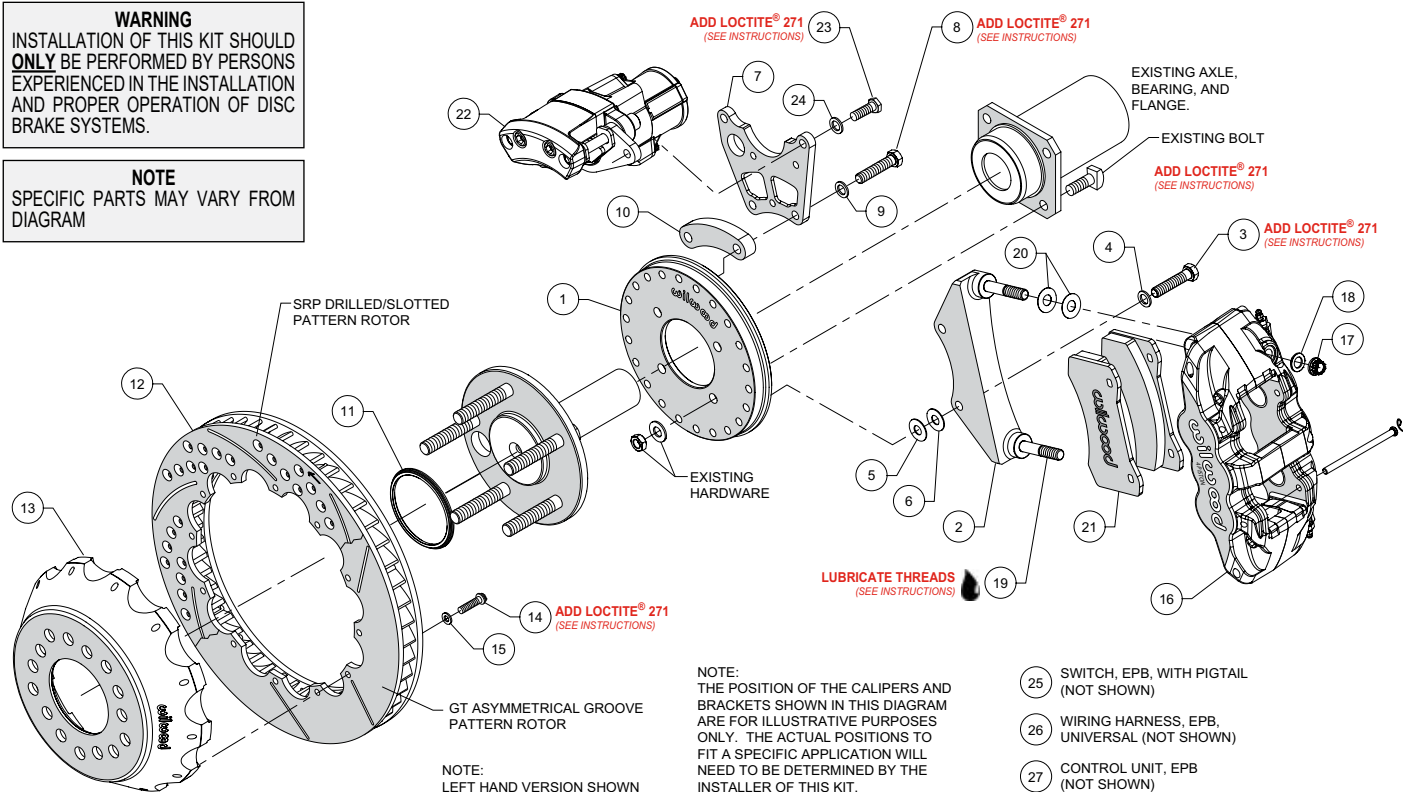
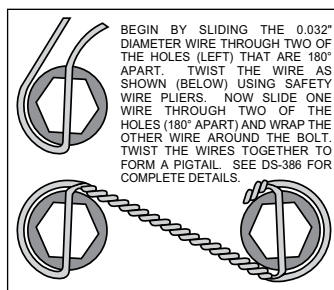

Figure 1. Typical Installation Configuration
Figure 4. Safety Wire Diagram
NOTE: Numbers in parenthesis refer to the parts list and Figure 1 on the preceding pages.
- Orient the backing plate (1) as shown in Figure 1 and Photo 1, and mount it to the axle housing flange using the Original Equipment Manufacturer (OEM) bolts, washers and nuts, Figure 1. Ensure the backing plate fits flush against the axle housing flange. Apply red *Loctite*® 271 to the OEM bolt threads and torque to OEM specifications.
•Start by determining the best location for the service caliper (16). This caliper is usually mounted in the 3:00 or 9:00 o'clock position, but may be rotated up or down approximately 45 degrees and still allow for proper bleeding, Photo 2. Orient the service caliper bracket (2) as shown in Figure 1 and Photo 3, and install to the backing plate (1) in the desired location using bolts (3) and washers (4). Temporarily tighten bolts. Next, mount the service caliper onto the bracket. Lubricate the caliper mounting studs (19) with lightweight oil. Mount the service caliper using lock nuts (17) and washers (18), Figure 1. Temporarily tighten the lock nuts. Check that the caliper (including inlet fitting and hose) has sufficient clearance to all surrounding components through the full suspension travel. Relocate the caliper/bracket on the backing plate as needed to ensure proper clearance is achieved.
•Determine the best location for the EPB caliper (22). **NOTE:** The EPB caliper motor extends farther inboard than the service caliper and therefore needs additional consideration when determining a mounting location with sufficient clearance. In the example application shown in Photo 4, the EPB caliper has sufficient inboard clearance to the leaf spring. However, if the EPB caliper were mounted closer to the 12:00 o'clock position, the inner body of the vehicle would hit the caliper during full compression of the suspension.
•Orient the EPB caliper bracket (7) as shown in Figure 1 and Photo 5, and install to the backing plate (1) in the desired location using bolts (8), washers (9), and spacer (10). Temporarily tighten bolts. **NOTE:** The EPB bracket is reversible. In one direction the bracket will position the EPB caliper closer to the service caliper, and vice versa if reversing the bracket. Next, mount the EPB caliper (22) to the bracket using bolts (23) and washers (24). Temporarily tighten bolts. **NOTE:** EPB calipers are Left and Right handed, however they can be used on either
- Once the caliper positions have been determined, remove both the service (16) and EPB (22) calipers, leaving both brackets in place on the backing plate. For the EPB bracket, remove the bolts one at a time, apply red Loctite® 271 to the threads, and torque to 35 ft-lb. The service caliper bracket will be final installed after shimming is determined.
- Orient the rotor (12) and the hat (13) as shown in Figure 1 and Photo 6. Attach rotor to hat using bolts (14) and washers (15). Apply red Loctite® 271 to the bolt threads and torque to 155 in-lb using a criss-cross pattern. For an added measure of security, the bolts may be safety wired using standard 0.032 inch diameter stainless steel safety wire as shown in Figure 4. Please refer to Wilwood's data sheet DS-386 (available at www.wilwood.com/Pdf/DataSheets/ds386.pdf) for complete safety wire installation instructions.
- Slide the rotor registration adapter (11) onto the register on the axle flange with the smaller O.D. facing toward the rotor/hat (12 and 13), Photo 7.
- Initially place two .030" thick shims (20) on each stud of the service caliper bracket (2), as shown in Figure 1 and Photo 8. Mount the caliper onto the bracket using lock nuts (17) and washers (18), Figure 1. Temporarily tighten the lock nuts and view the rotor through the top opening of the caliper. The rotor should be centered in the caliper, Photo 9. If not, adjust by adding or subtracting shims (5 and/or 6) between the service caliper bracket (2) and the backing plate (1). Always use the same amount of shims on each of the two mounting bolts. Once the caliper alignment is correct, remove the bracket mounting bolts (3) one at a time, apply red Loctite® 271 to the threads, and torque bolts to 35 ft-lb.
- Remove the service caliper (16), then remove the two pad retaining pins from the caliper by carefully popping out the pin retaining clips and sliding out the pins. Insert the brake pads (21) into the caliper from the bottom, Figure 1 and Photo 10. With the friction material facing the rotor, secure the brake pads in place with the pad retaining pins and clips, Photo 11. Reinstall the caliper onto the mounting bracket and temporarily tighten the lock nuts. Check that the top of the brake pad is flush with the outside diameter of the rotor, Photo 12. If not, adjust by adding or subtracting shims (20) between the caliper and the bracket. After the caliper pad height is set, torque the caliper lock nuts (17) to 47 ft-lb.
- Mount the EPB caliper (22) onto the caliper mounting bracket (7) using bolts (23) and washers (24), Figure 1. Apply red *Loctite*® 271 to bolt threads, and torque to 30 ft-lb.
• **NOTE:** The service caliper (16) in this brake kit utilizes a 1/8-27 NPT pipe thread inlet. OEM rubber brake hoses generally cannot be adapted to Wilwood calipers. The preferred method is to use steel adapter fittings at the caliper, either straight, 45 or 90 degree (use PTFE tape on pipe threads of adapter fitting for proper sealing to caliper) and enough steel braided line to allow for full suspension travel. **Carefully route hoses to prevent contact with moving suspension, brake or wheel components.** **NOTE:** Wilwood hose kits are designed for use in many different vehicle applications and it is the installer's responsibility to properly route and ensure adequate clearance and retention for brake hose components. Wilwood offers universal brake flex line hose kits, domestic (3/8-24 IF) chassis fittings, order: